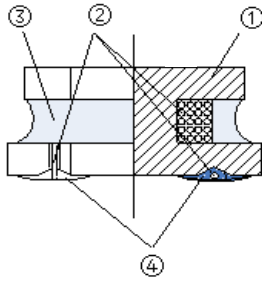

Fig.4-3
- 2) Structure: See Fig.4-3 and Table 4-2.